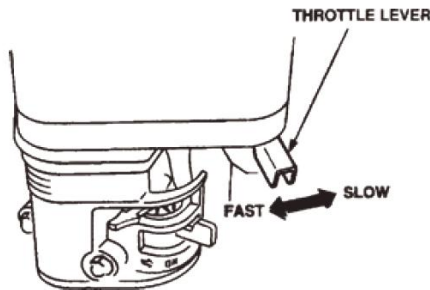

FIG.11
9.9 To begin troweling, move the throttle lever (FIG. 11) toward the "FAST" position.
10.1 Move the throttle lever to the IDLE or SLOW position (FIG. 11) and run the engine for three minutes at low speed.